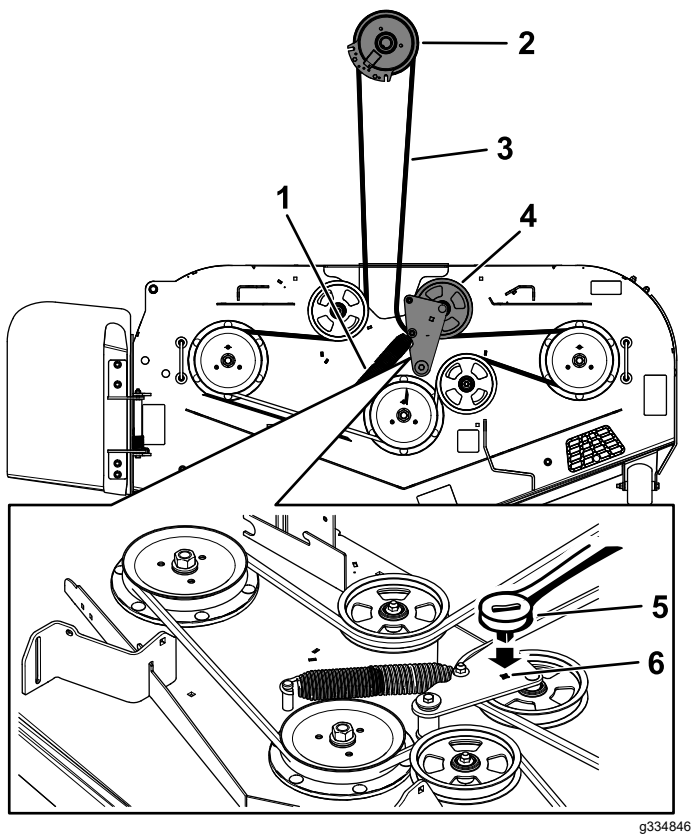

**Figure 60**
8. Use a 3/8-inch ratchet in the square hole in the idler arm to remove tension on the idler spring (Figure 60).
10. Remove the belt guide on the spring-loaded idler arm (Figure 60).
12. Install the new belt around the mower pulleys and the clutch pulley under the engine (Figure 60).
13. Install the belt guide on the idler arm (Figure 60).
14. Using the 3/8-inch ratchet in the square hole, install the idler spring (Figure 60).